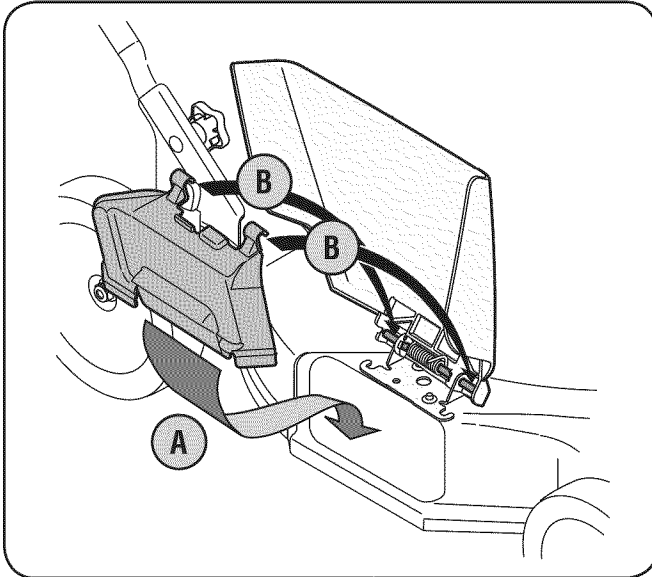

Figure 3-6
- a. Lift up and hold the side-discharge chute deflector and insert the bottom lip of the mulching baffle inside the chute opening. See Fig. 3-6.